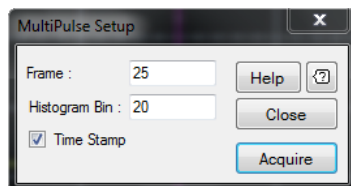

Figure 2-91 MultiPulse Setup dialog
- 2 The MultiPulse Setup dialog is displayed as shown in Figure 2-91 to allow you to configure the multipulse display.